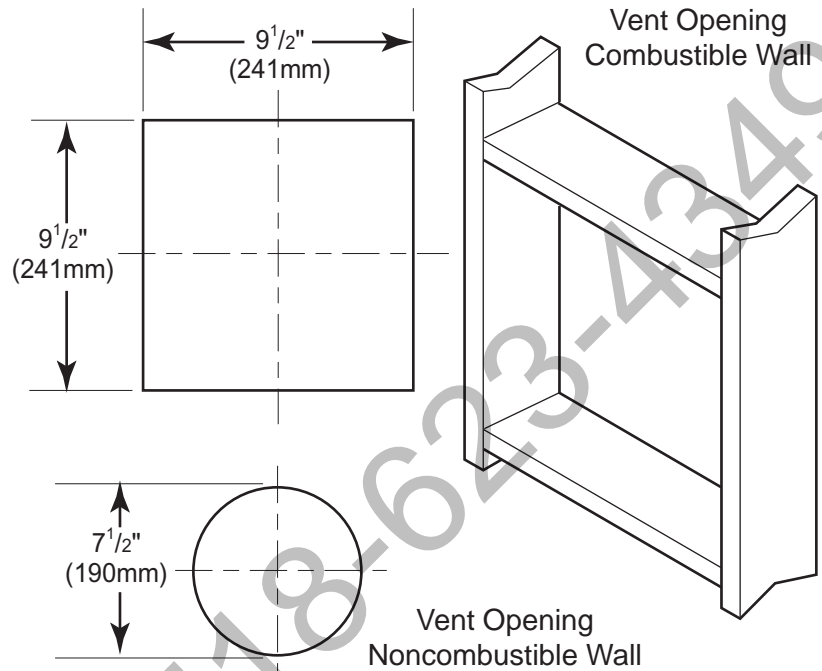

Figure 15 - Vent Opening Requirements
3. Attach vent pipe assembly to the stove. Set stove in front of its permanent location to insure minimum clearances. Mark the wall for a 9½" (241) square hole (for noncombustible material such as masonry block or concrete, a 7½" [190mm] diameter hole is acceptable). See Figure 15. The center of the hole should line up with the center line of the horizontal rigid vent pipe. Cut a 9½"x9½" (241mm X 241mm) square hole through combustible exterior wall (7½" [190mm] diameter hole if noncombustible). Frame as necessary. See Figure 15.
3. Cut a hole in the roof using the locating hole as a center point. (Cover any exposed open vent pipes before cutting hole in roof). The $9\frac{1}{2}$ "x $9\frac{1}{2}$ " (241mm x 241mm) hole must be measured on the horizontal. Actual length may be larger depending on the pitch of the roof. There must be a 1" minimum clearance from the vent pipe to combustible materials. Frame the opening as shown in Figure 15 on page 17.